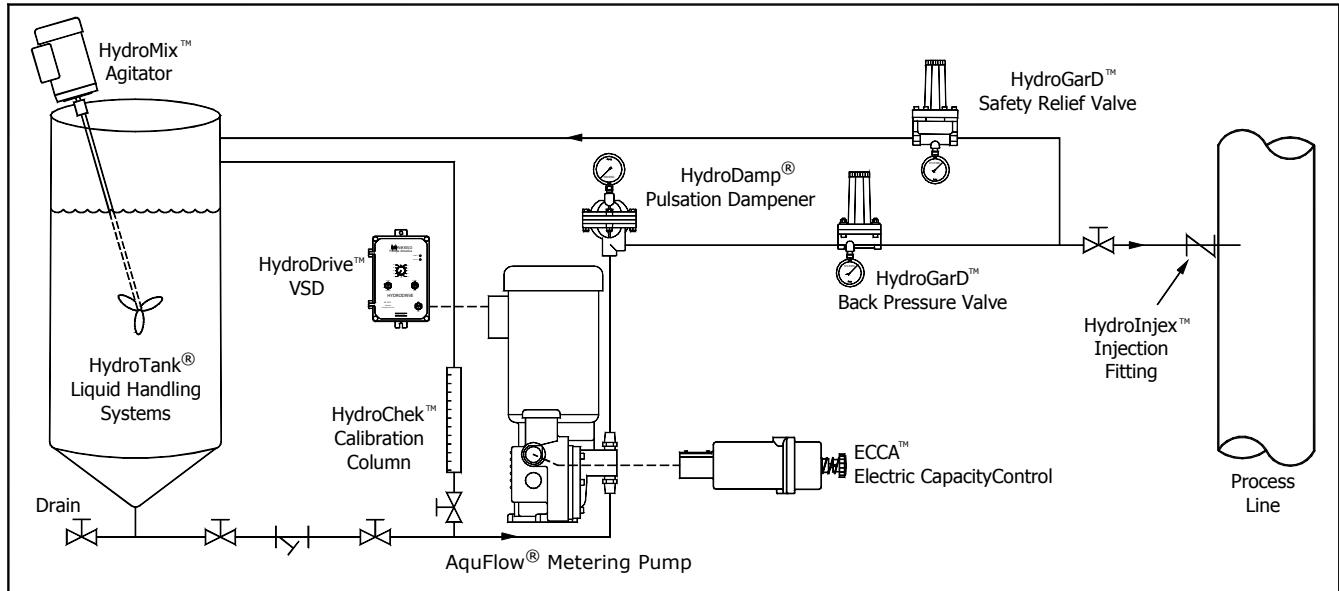

Figure 3. Typical Metering Pump Installation
- 2. A minimum positive pressure differential of 25 psi between the suction and discharge valves is recommended for proper hydraulic bypass operation and seating of the ball checks. Should normal discharge pressure be less than the suction pressure, an artificial discharge pressure must be created to prevent siphoning. This can be accomplished by the use of an AquFlow HydroGarD™ back pressure valve installed in the discharge piping as shown in Figure 3 above.
If there are other sources of pressure or hydraulically isolated sections of piping in the system, an external safety relief valve must be installed in the pump discharge line as close to the pump as possible, and BEFORE any isolation valve. The safety relief valve should be piped back to the suction tank or safety drain as shown in Figure 3.
4. Check to be certain that accessory components and fittings have been installed in the proper orientation and sequence as shown in Figure 3.
Pump calibration can be accomplished by measuring the decrease in liquid level pumped from a HydroChek™ calibration column installed in the suction line as shown in Figure 3 on page 3. Follow the calibration instructions provided by the cylinder manufacturer.